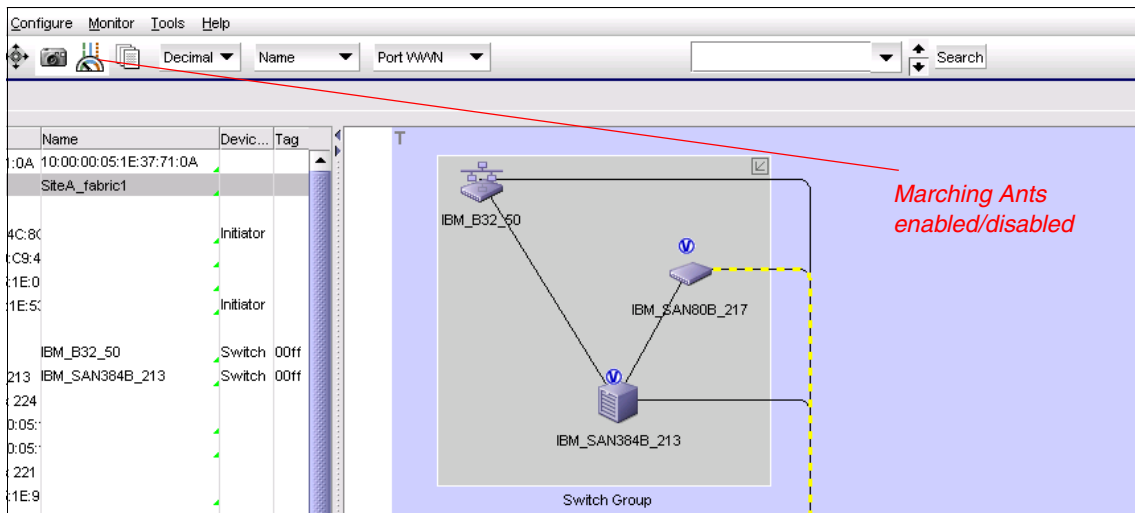

Figure 9-66 Displaying colored animated dashed line
- ▶ Click the Utilization icon in the ToolBar (see Figure 9-66).
Figure 9-66 shows the “Marching Ants,” the colored animated dashed line in the View Utilization view, which display utilization for FC and FCIP.